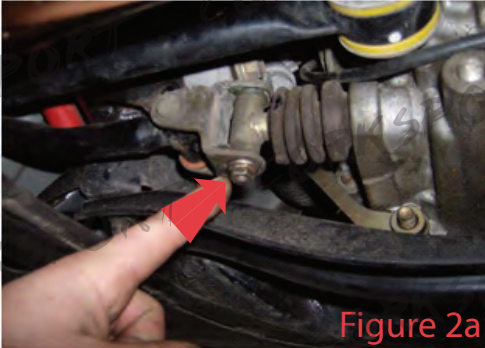

Figure 2a
- A) Remove the 12mm headed nut, located at the shift rod to transmission, shown in Figure 2a.